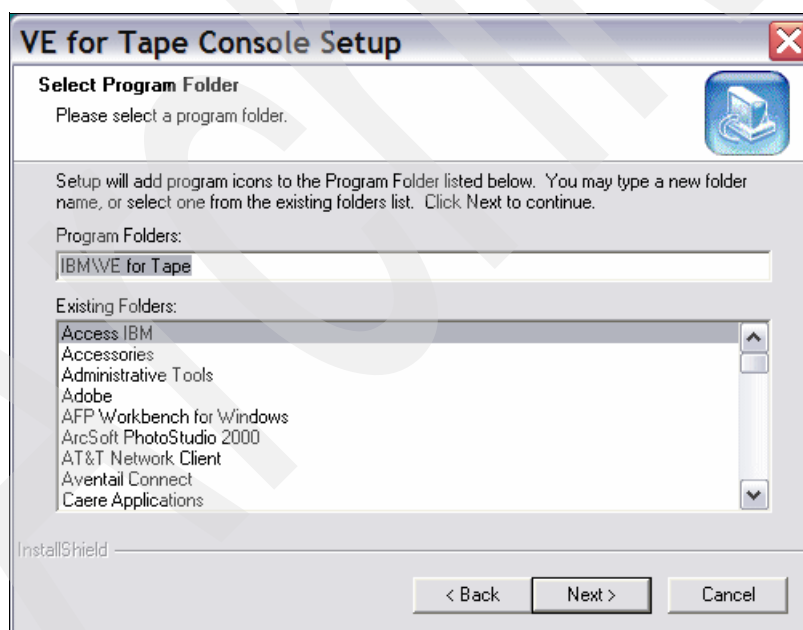

Figure 5-20 IBM Total Storage Virtualization Engine TS7510 Console: Select folder
5. Accept or change the folder name in the Select Program Folder window, as shown in Figure 5-20. Click **Next**.